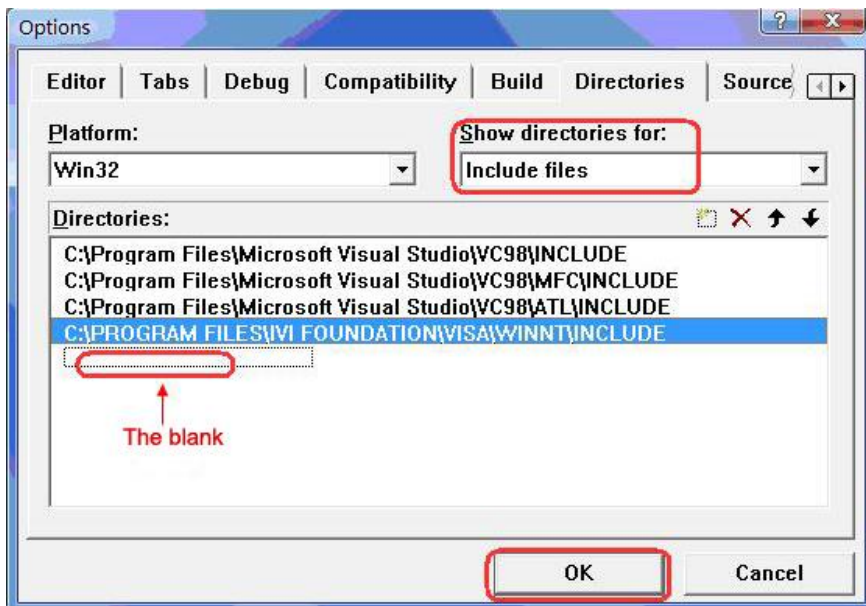

Figure 4-1-3
2. Choose Tools → Options → Directories; select Include files in Show directories for, and then double click the blank in Directories to add the path of Include: `C:\Program Files\IVI Foundation\VISA\WinNT\include`, as is shown in figure 4-1-3.